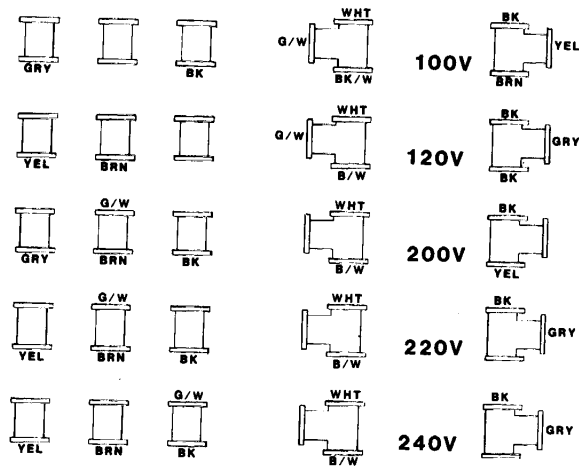

FIGURE 2-1. POWER SUPPLY STRAPPING FOR VARIOUS MAINS VOLTAGES.
2. Re-strap for different line voltages by moving terminals on the terminal board directly to the rear of the power transformer. See Fig. 2-1.